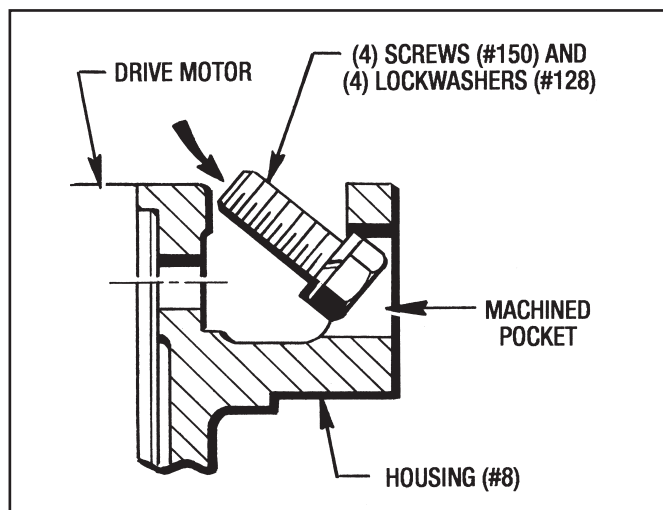

Figure 3.5 - Installing Motor Mounting Screws
- Attach the Brake Assembly to the Drive Motor with (4) Screws (#150) and (4) Lockwashers (#128). **Torque to 60 Ft. Lbs.**
**NOTE:** Insert the screws head first into the machined pockets to allow for proper clearance to the mounting holes as shown in Figure 3.5. **Do not use shorter screws.**